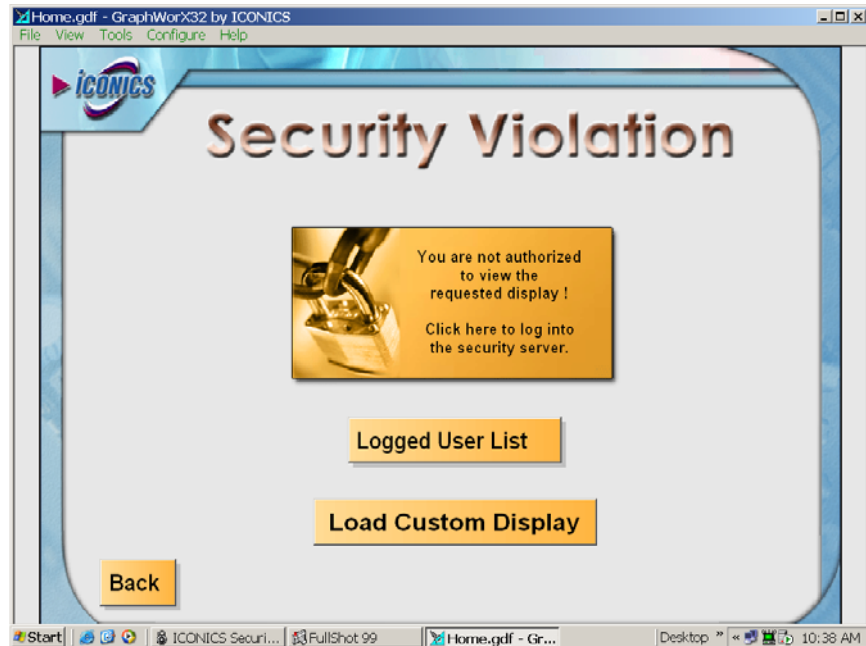

Figure 6.13
11. Since you are NOT logged into ICONICS Security yet, you are NOT allowed to run anything (including Gen32 Demo, which is nothing but GWX32 in runtime). See **Figure 6.13**.